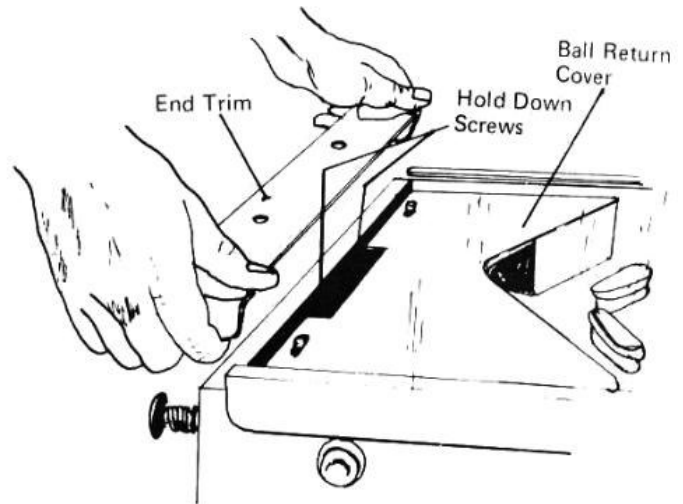

FIGURE 6
1. Remove the two screws from the end trim as shown in Figure 6. Set end trim and the attaching screws aside.
4. Remove the two hold down screws from the playfield as indicated in Figure 6 and set aside until playfield is re-installed.
6. Place end trim back into position and re-install the two screws. (See Figure 6, Page 13).